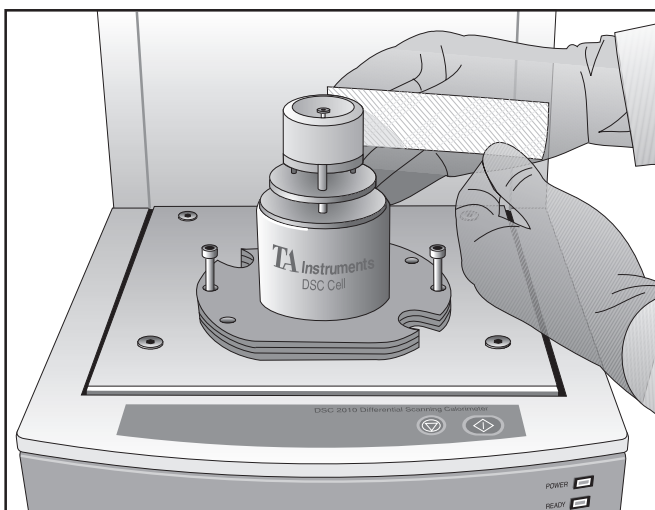

Figure 2.4
- b. Position the insulation beginning at the back of the cell sleeve and allowing 3.2 mm (1/8 inch) to extend above the top of the cell (see Figure 2.4).